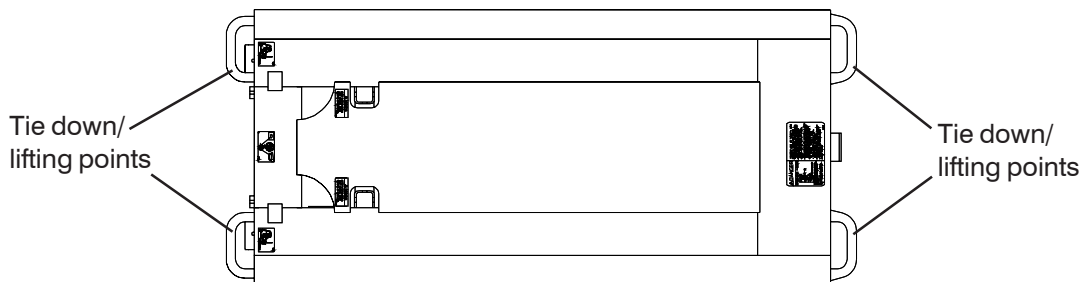

Figure 2-17. Tie Downs/Lifting Points
- The lifting/rigging may be attached to all four lifting points as illustrated in Figure 2-17.
When transporting, the aerial platform must be secured to the truck or trailer deck. Tie downs are available as illustrated in Figure 2-17.